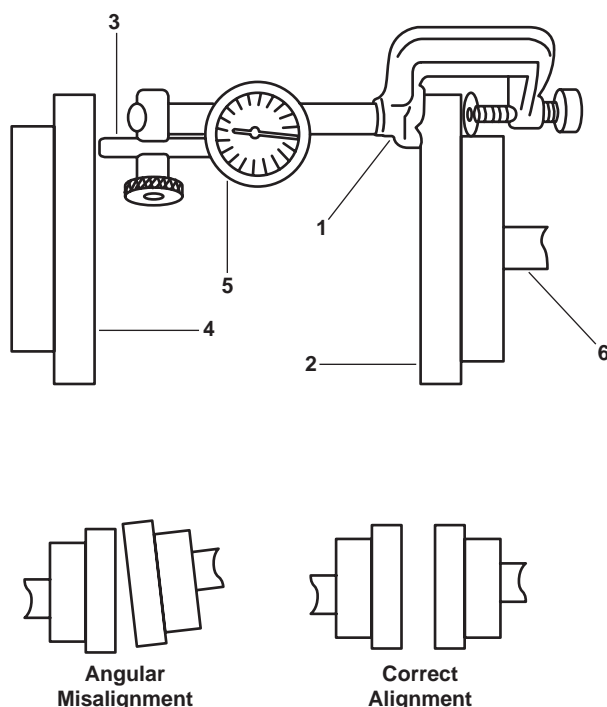

Figure 2. Dial Indicator/Angular Alignment Depiction
7. Install the dial indicator fixing stand (figure 2, item 1) on the pump input flange (figure 2, item 2) as shown in figure 2, to check the angular alignment.
8. Position the dial indicator (figure 2, item 3) against the PTO output flange (figure 2, item 4) as shown in figure 2.
10. Zero the dial indicator (figure 2, item 3) by twisting the indicator's bezel (figure 2, item 5).
11. Slowly rotate the pump shaft (figure 2, item 6) while noting the dial indicator (figure 2, item 3) reading.